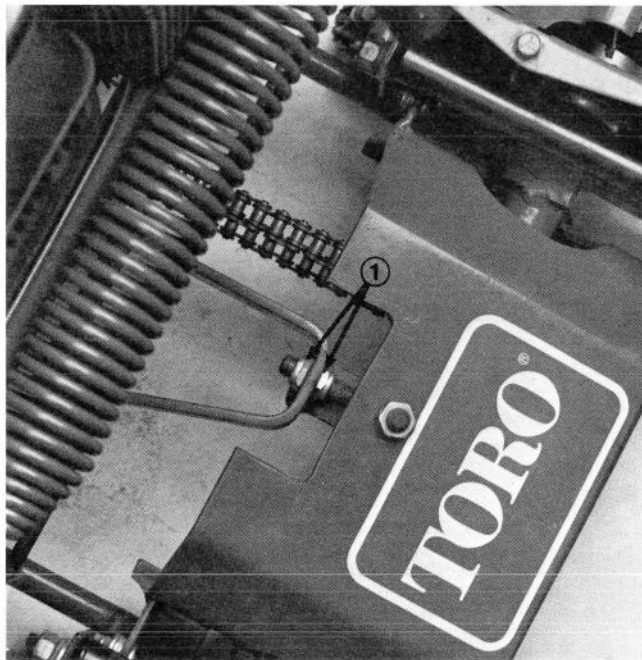

Figure 29
3. Adjust cutting unit attitude by lengthening or shortening center ball joints in front and rear yokes (Fig. 29, 30).